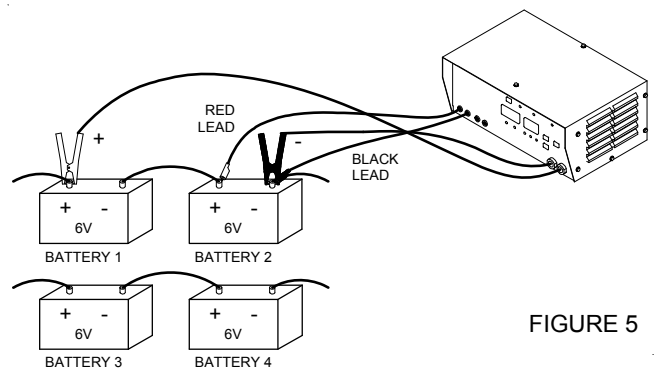

FIGURE 5
- Both the heavy duty and light gauge leads will be used in this test (see figure 5).